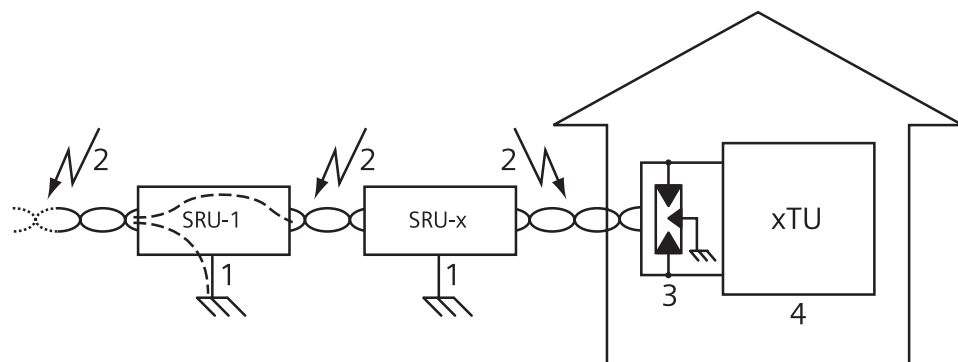

Fig. 1.3 Overvoltage protection
Fig. 1.3 shows an example with a SHDSL loop with some (probably) inserted SRUs. Overvoltage (2) caused by i.e. lightning or mains can occur anywhere on the loop.